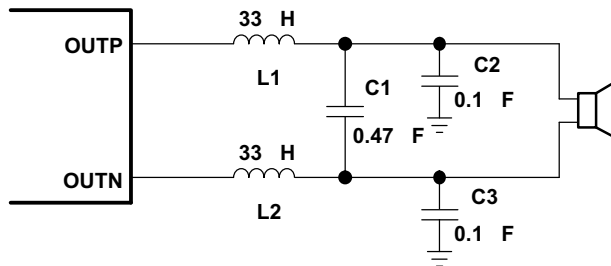
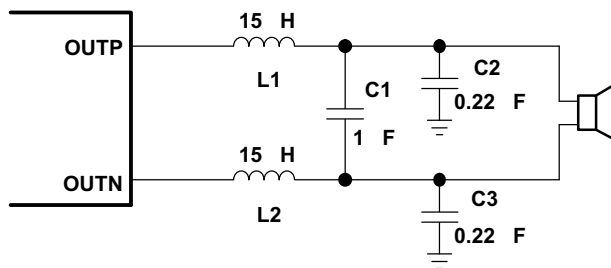
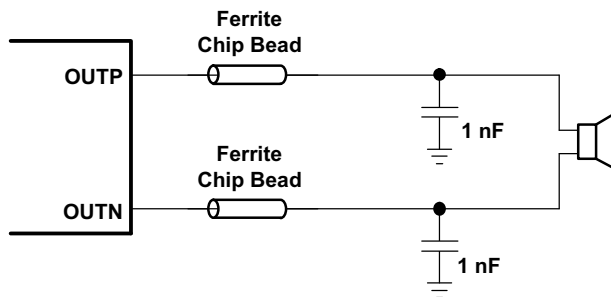
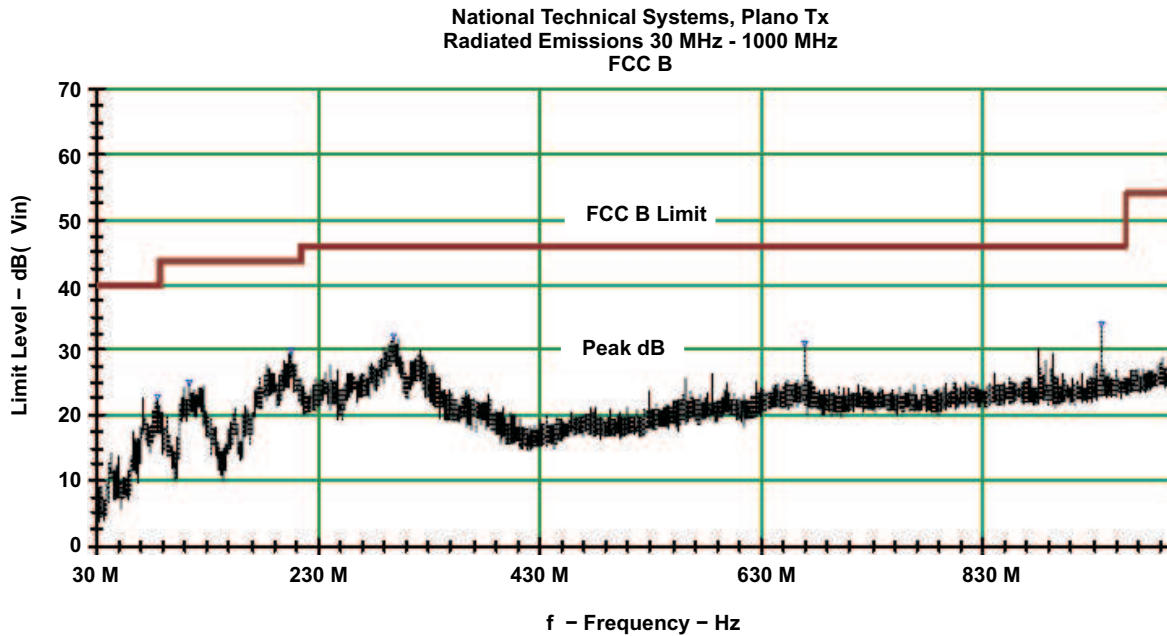

Figure 27. Typical LC Output Filter, Cutoff Frequency of 27 kHz, Speaker Impedance = 8 Ω
Figure 28. Typical LC Output Filter, Cutoff Frequency of 27 kHz, Speaker Impedance = 4 Ω
Figure 29. Typical Ferrite Chip Bead Filter (Chip Bead Example: Fair-Rite 2512067007Y3)
Figure 30. Radiated Emissions Prescan 30 MHz - 1000 MHz
Using the LC filter in Figure 27, the TPA3101D2 EMI EVM passed the FCC Part 15 Class B radiated emissions with 21 inch speaker wires. Quasi-peak measurements were taken for 4 configurations, and the TPA3101D2 EMI EVM passed with at least a 5.6-dB margin. A plot of the peak measurement for the horizontal rear configuration is shown in Figure 30.
- Output filter—The ferrite EMI filter (Figure 29) should be placed as close to the output terminals as possible for the best EMI performance. The LC filter (Figure 27 and Figure 28) should be placed close to the outputs. The capacitors used in both the ferrite and LC filters should be grounded to power ground. If both filters are used, the LC filter should be placed first, following the outputs.